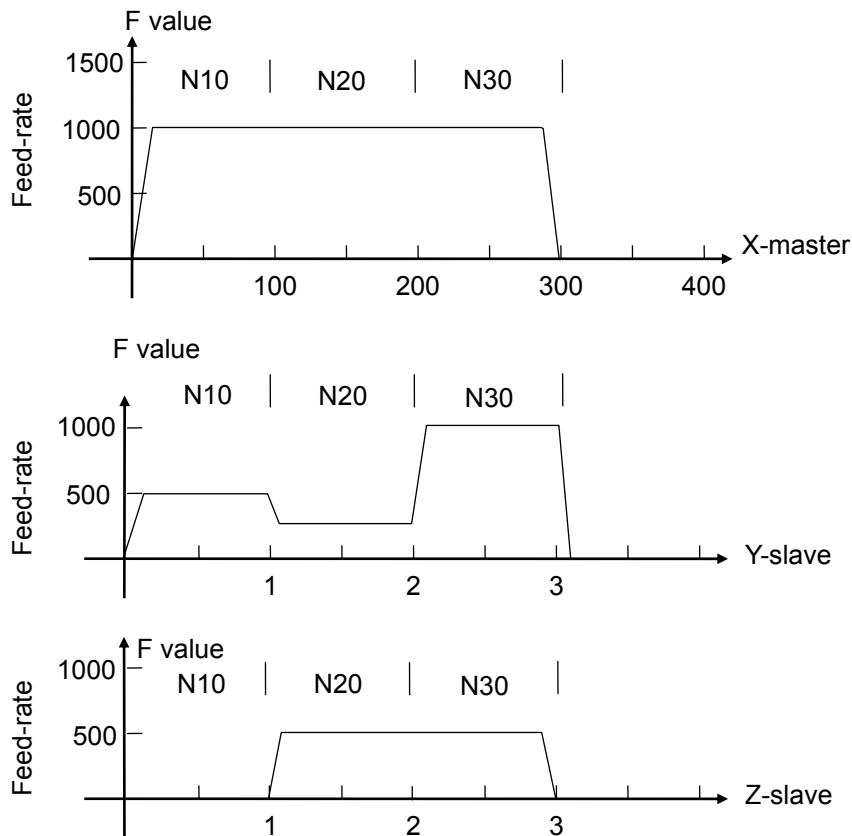

Fig 3-5 Mater/Slave mode – Master Speed unchanged
Ex2: As shown in Fig 3-5, X is the master while Y and Z are the slaves. The feed-rate of the master axis (X) in each block doesn't change, but the feed-rate of the slave axes (Y, Z) changes along with the incremental slope ratio.
In Example 2, the feed-rate of Y-slave changes along with the incremental slope rate of X, Y and is not reset to zero. Since both increments of the Z-axis are 50, the feed-rate remains the same. Note that there is a small interval between blocks during acceleration/deceleration. (Fig. 3-5 )